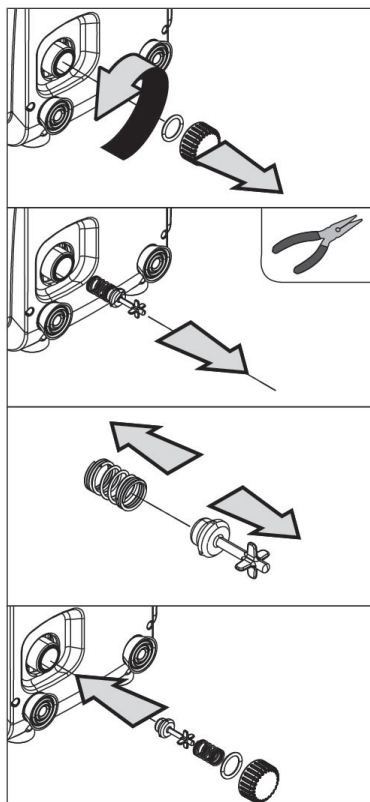

Figure 18
3. remove the drainage cap on Face E, taking care not to drop the O-Ring (Fig.18);